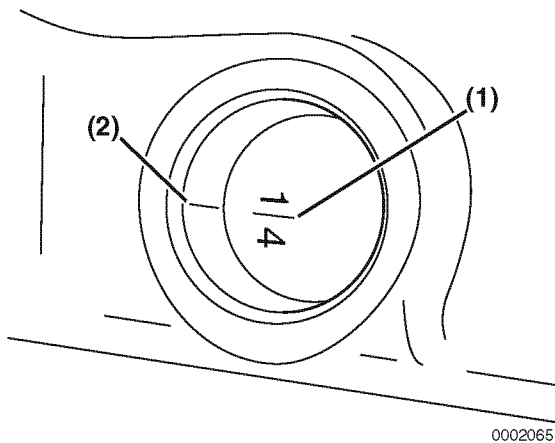

Figure 7-46
8. Highlight the timing reference mark (Figure 7-46, (2)) on the flywheel housing or engine back plate (Figure 7-47, (2)). Highlight the TDC (Top Dead Center) mark (Figure 7-46, (1)) on the flywheel.